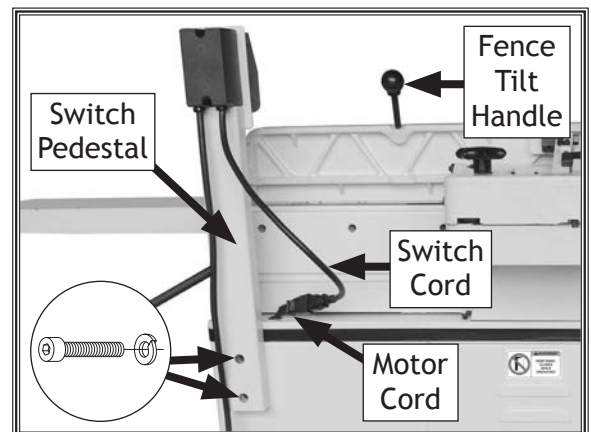

Figure 12. Switch pedestal attached to stand, cords connected, and fence tilt handle installed.
6. Reposition and secure switch pedestal (see **Figure 12**) in upright position with (2) pre-installed M8-1.25 x 20 cap screws and (2) 8mm lock washers.
7. Connect switch cord to motor cord and install fence tilt handle (see **Figure 12**).